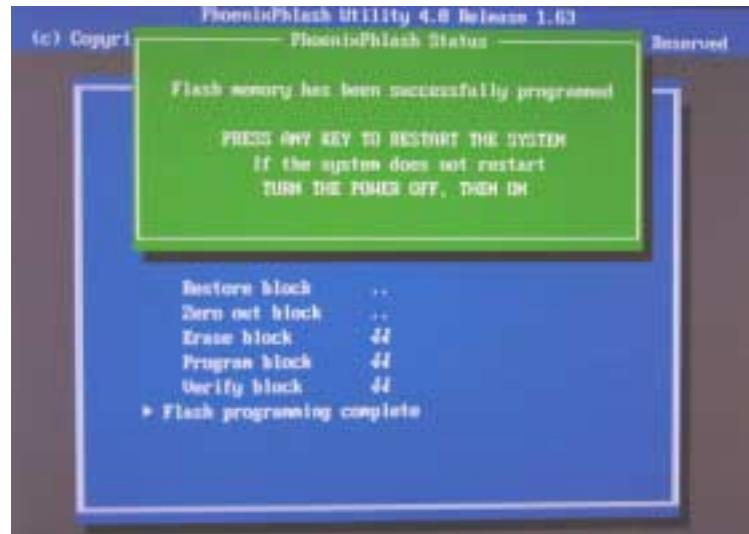

Figure 16-6 Phlash Window
- Verify message "Phlash memory has been successfully programmed" appears in PhoenixPhlash Status box (see Figure 16-6).